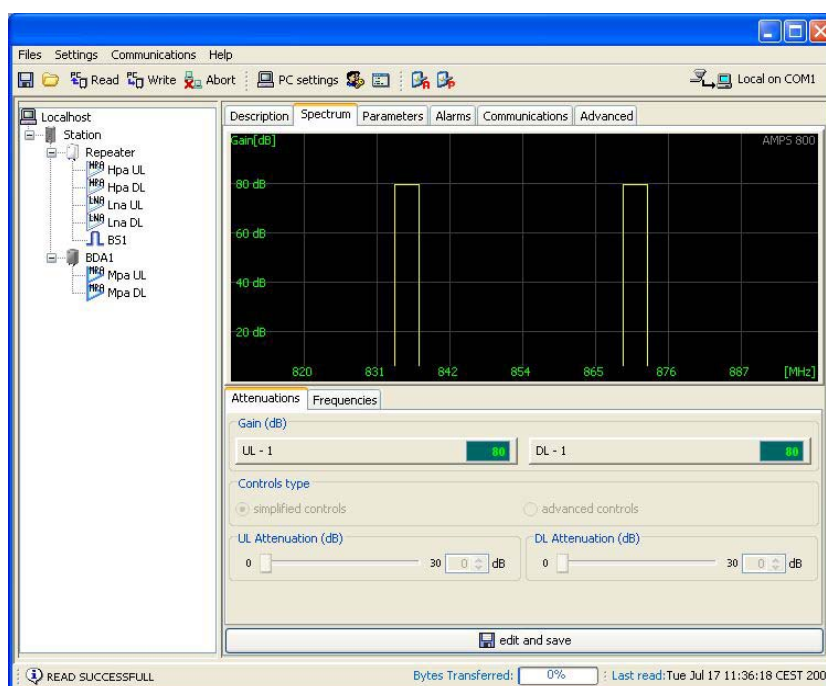

FIGURE 11 – ‘SPECTRUM’ PANEL - EXAMPLE
- c) In the 'Spectrum' panel (FIGURE 11) set both 'UL-attenuation' and 'DL-attenuation' to 30 (dB) - maximum attenuation, i.e. minimum gain.